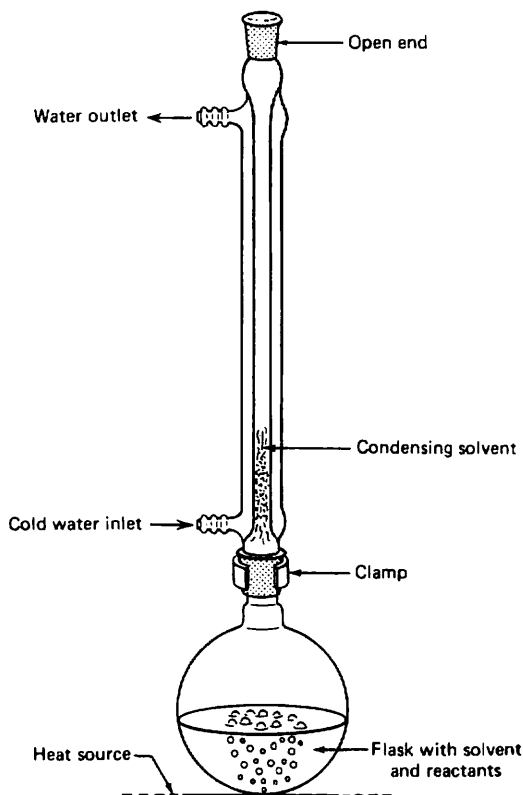

Fig. 108 A reflux setup.
4. Place a condenser, upright, on the flask, connect the condenser to the water faucet, and run water through the condenser (Fig. 108). Remember—in at the bottom and out at the top.